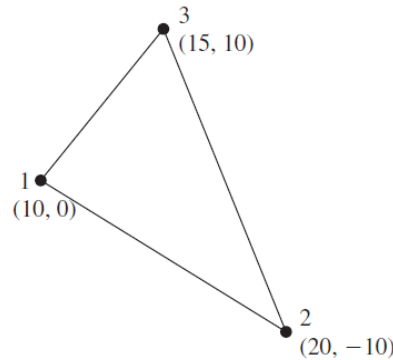

Figure 7
- 5A. Evaluate the stiffness matrix for the plane stress element shown in Figure 7. The coordinates are given in units of millimeter.  $E = 82 \text{ GPa}$  and  $\nu = 0.3$ . (05)
- 5B. For the plane strain elements shown in Figure 7, the nodal displacements are given as,  $u_1 = 0.005 \text{ mm}$ ,  $v_1 = 0.002 \text{ mm}$ ,  $u_2 = 0.0 \text{ mm}$ ,  $v_2 = 0.0 \text{ mm}$ ,  $u_3 = 0.005 \text{ mm}$ ,  $v_3 = 0.0 \text{ mm}$ . Determine the element stresses  $\sigma_x, \sigma_y, \tau_{xy}$  and  $\sigma_1, \sigma_2$ , and the principal angle  $\theta_p$ . (05)